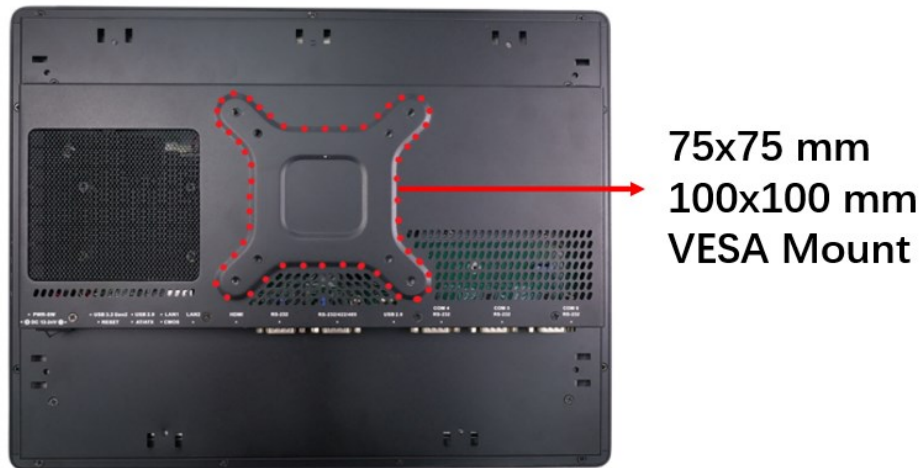

Figure 3-27: Arm Mounting Retention Screw Holes
- Step 3:** Align the retention screw holes on the mounting arm interface with those in the PPC2-Cxxx-EHL Series panel PC. The arm mounting retention screw holes of the PPC2-Cxxx-EHL Series panel PC are shown in **Figure 3-27**.